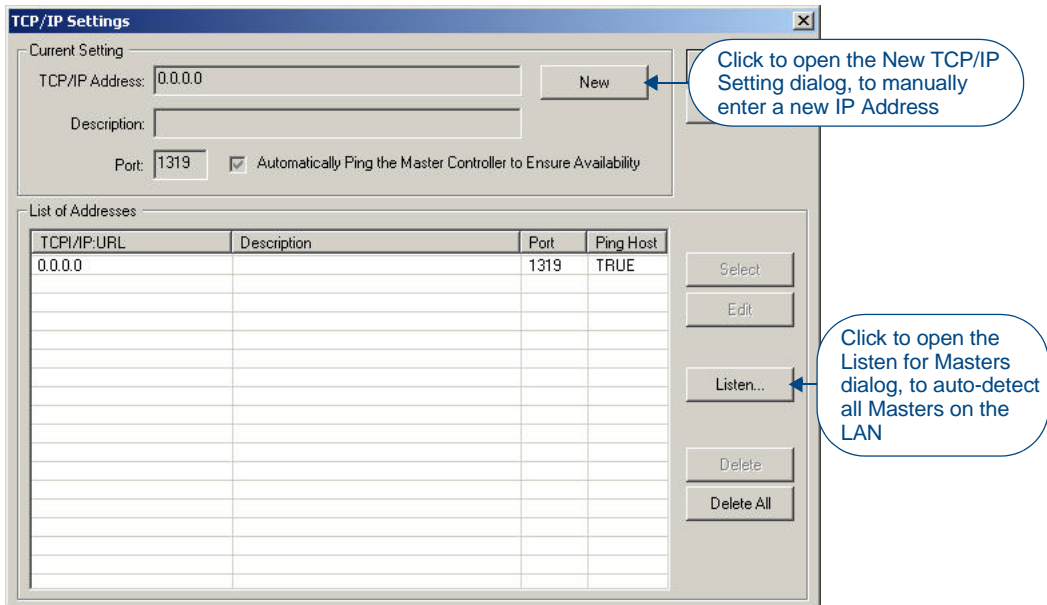

FIG. 3 NetLinX Studio - TCP/IP Settings dialog
- Click **Edit Settings** to open the *TCP/IP Settings* dialog (FIG. 3).